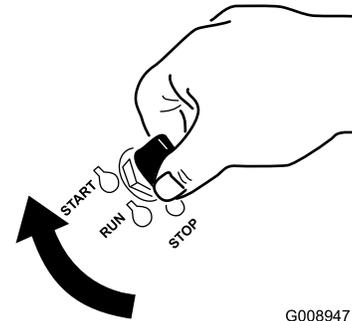

Figure 18
1. Turn the ignition key to the START position (Figure 18). When the engine starts, release the key.